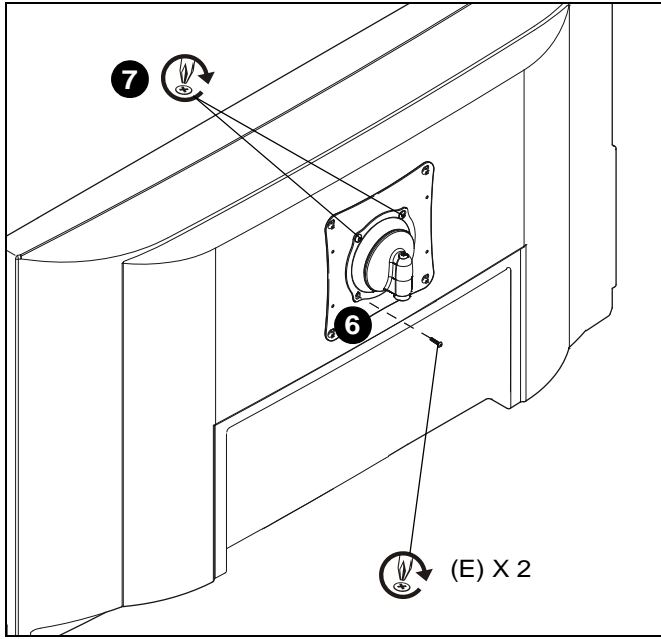

Figure 12
5. Align two screws (E) in interface bracket (B) with upper mounting holes in Centris cup and lower display until screws are seated in lower area of teardrop mounting holes. (See Figure 12)
6. Install two more of the same screws (E) through lower mounting holes in display mounting plate and into display back. (See Figure 12)
7. Tighten top two screws until mount is securely connected to the interface and display. (See Figure 12)